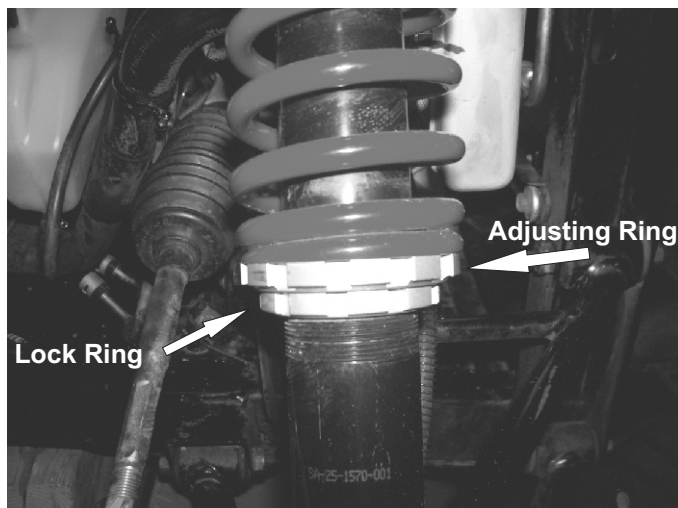

Figure 4
1. Your Progressive Suspension shocks come with the spring Pre-Load adjusted to the optimum setting for Heavy-Duty use. However, the pre-load is adjustable by means of a threaded Adjusting Ring and Lock Ring. See **Figure 4**.